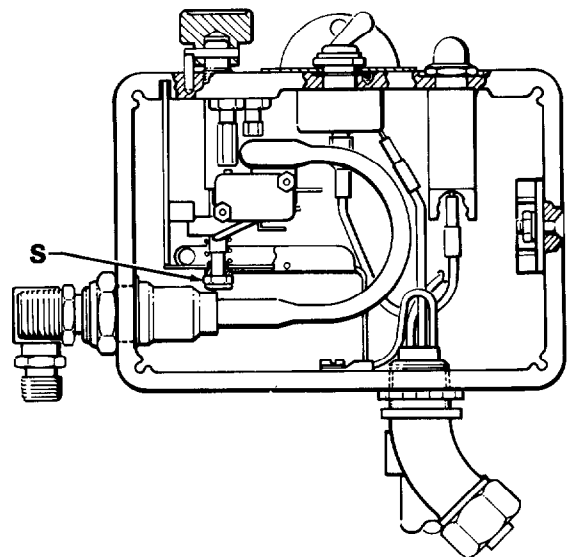

Fig 19
6. Use a 3/8" ignition wrench to turn the pressure adjustment nut (S) counterclockwise about two full turns. See Fig 19.